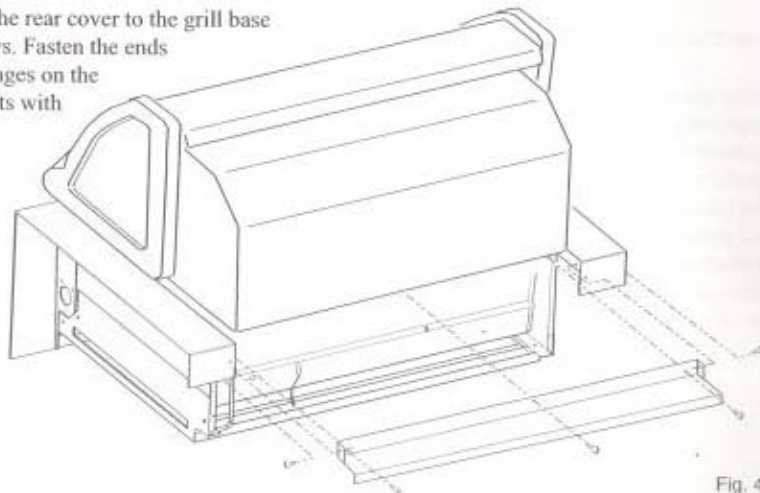

Fig. 4
Fasten the back flange of the rear cover to the grill base with (3) self-tapping screws. Fasten the ends of the rear cover to the flanges on the left and right fascia brackets with (2) self-tapping screws (Fig. 4).